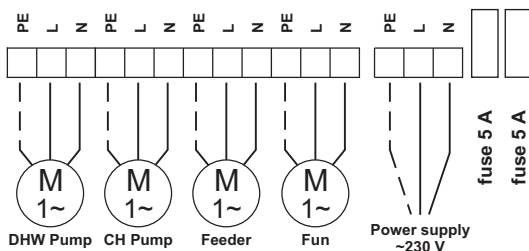

Fig.3 Wiring diagram to connect power cables
1. Connect the fan, pump and feeder with the appropriate power cables (see - Figure 3).